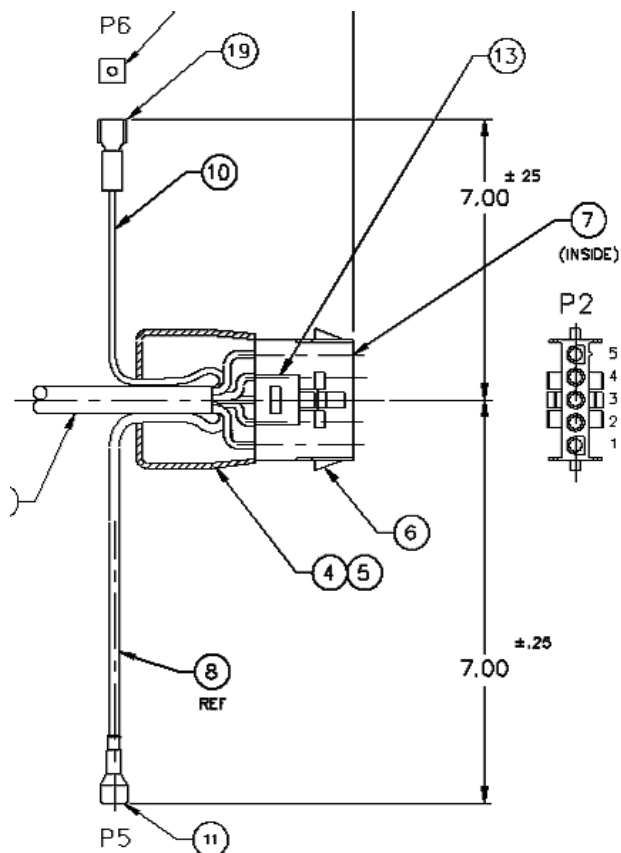

Figure 11: P2, P5 and P6 Connectors
4. Assemble connector P2 is shown in Figure 11: P2, P5 and P6 Connectors.